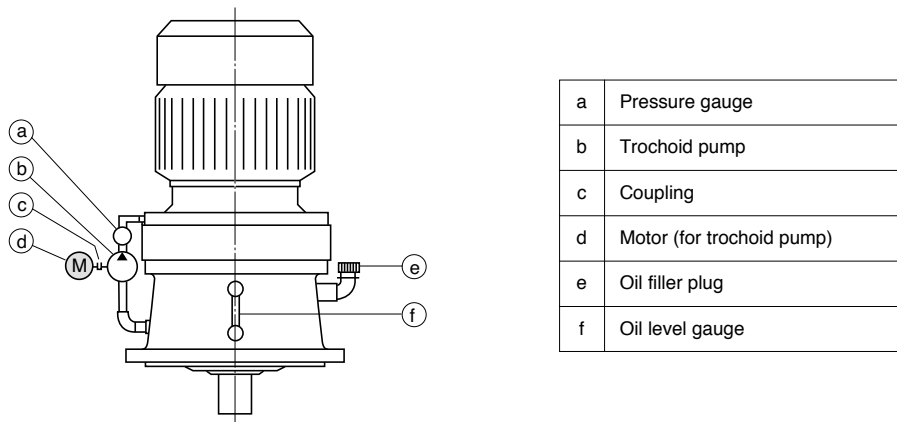

Fig. 12 Trochoid Pump Construction
- (1) **Vertical type of frame sizes 6275 and 6275DA** has individual lubrication system using trochoid pumps. Trochoid pump requires separate power source (Refer to Table 12 and Figure 12).
- (2) Refer to Fig.12 for the trochoid pump wiring.